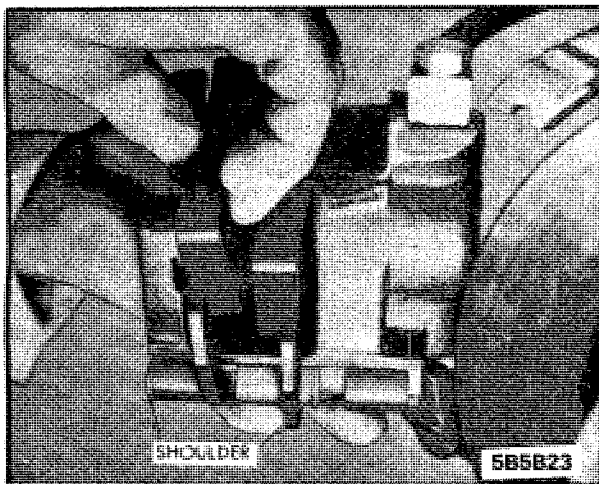

Figure 5B-23 - Mounting Sleeve
1. Install the new sleeves with bushings on the caliper grooves. The "shouldered end" of the sleeve must be installed toward the outside. See Figure 5B-23.